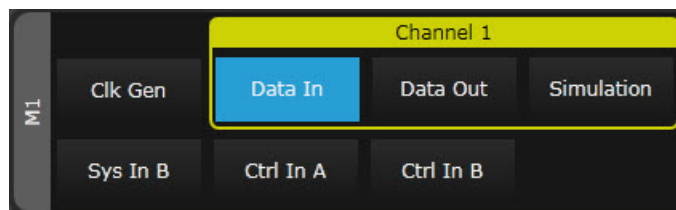

Figure 48 Select Channel 1 DataIn
- 12 Click on **Channel 1** > **DataIn** corresponding to the M8041A (M1) as shown in Figure 48 on page -93.